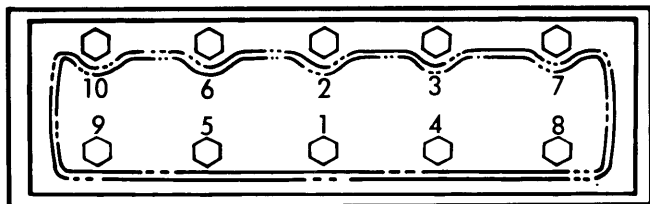

Fig. 3 Cylinder Head Tightening Sequence
2) Coat threads and underside of cylinder head bolts with sealer and install in cylinder head finger tight. Gradually tighten bolts following the sequence in Fig. 3. Reverse removal procedures to complete installation.